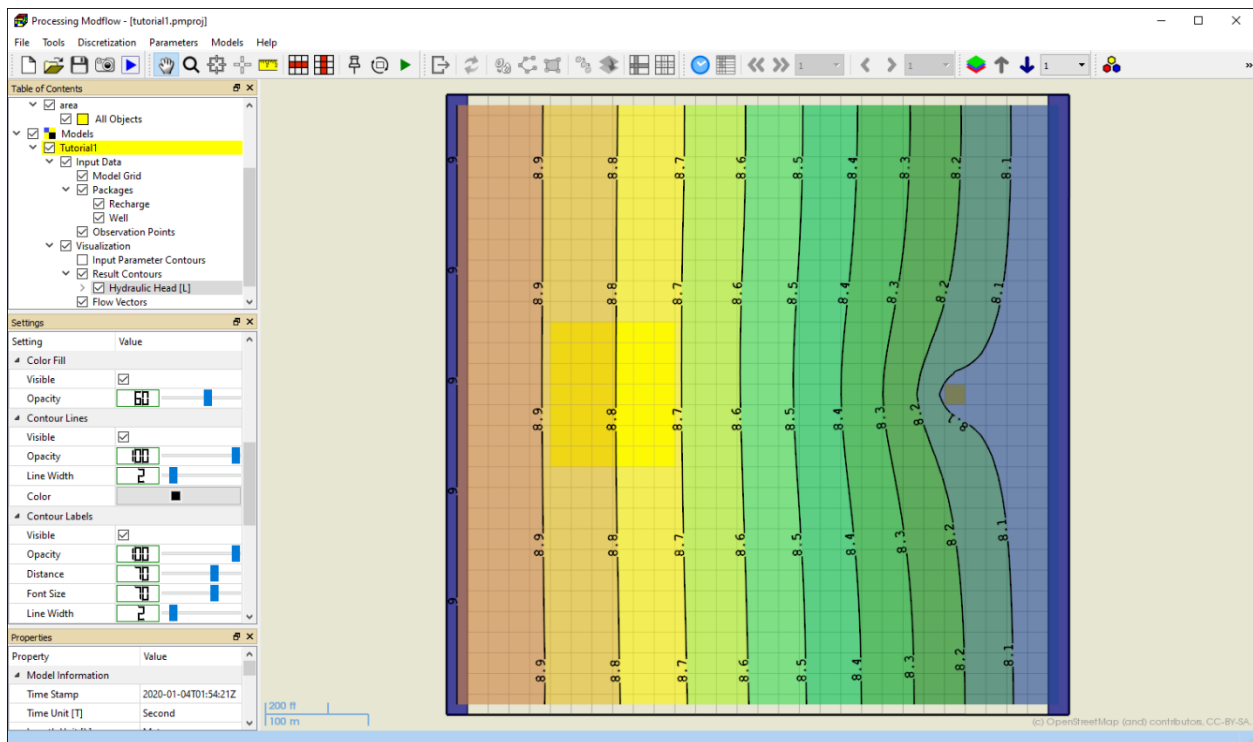

Figure 10. Color-filled hydraulic head contours of Layer 1
3. You may click on the “Hydraulic Head [L]” item and adjust its display with the controls on the settings window. For example, Figure 10 shows the color-filled contours with a larger font size for contour labels. See User Guide of PM for details about the available settings.